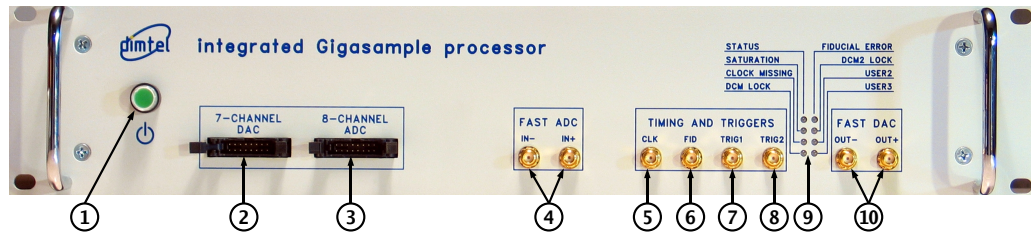

Figure 2: Front panel features
2. Connect **RF** clock at -3 dBm nominal level (Fig. 2, item 5);
3. Connect single-ended high-speed **ADC** input signal to **Ain+** (Fig. 2, item 4). The **FS** swing of this signal should be 190 mV peak-to-peak;
4. Connect a $50\ \Omega$ terminator to **Ain-** (Fig. 2, item 4);
5. Connect high-speed **DAC** output(s) (Fig. 2, item 10) to the appropriate back-end unit;
9. Push the power button (Fig 2, item 1) to turn on the system;
11. Push the power button (Fig 2, item 1) to turn the system off;
- Connect the 16-pin ribbon cable between the 7-channel **DAC** (Fig. 2, item 2) and the 8-channel **ADC** (Fig. 2, item 3);
- Connect 500 MHz clock to the **RF** clock input (Fig. 2, item 5);
- Terminate `Ain-` fast **ADC** input (Fig. 2, item 4);
- Terminate `Aout-` fast **DAC** output (Fig. 2, item 10);
- Make sure fiducial input is not driven (Fig. 2, item 6);